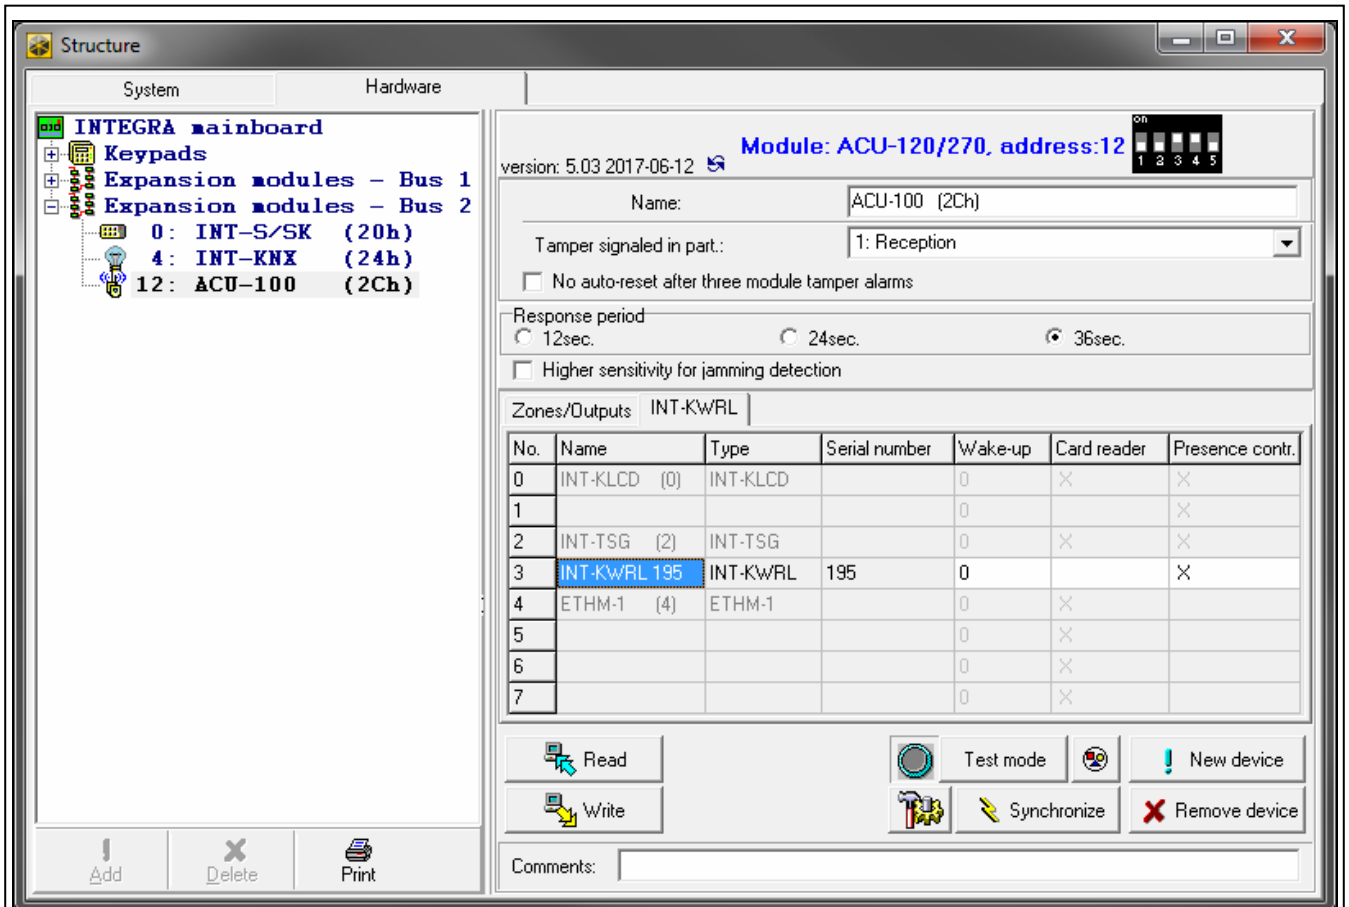

Fig. 4. DLOADX program: keypad settings stored in the ABAX system controller.
You can add wireless keypad in the “Structure” window, “Hardware” tab, after clicking on the name of ABAX system controller on the list of devices, and then on the “INT-KWRL” tab (see Fig. 4 p. 7).
You can remove the wireless keypads in the “Structure” window, “Hardware” tab, after clicking on the name of ABAX system controller on the list of devices, and then on the “INT-KWRL” tab (see Fig. 4 p. 7).
- DLOADX program: →“Structure” window →“Hardware” tab →“Expansion modules” branch →[controller name] →“INT-KWRL” tab (see Fig. 4),